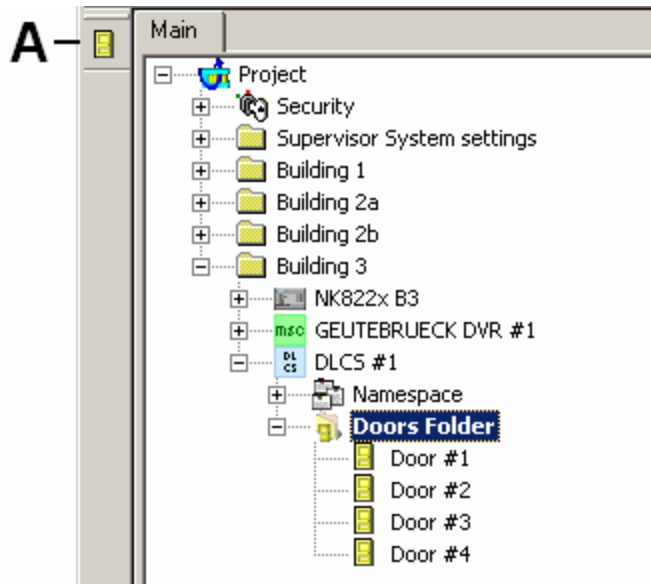

Fig 9 Adding a new door
3. Click the door icon  to add a new door (see Fig 9)